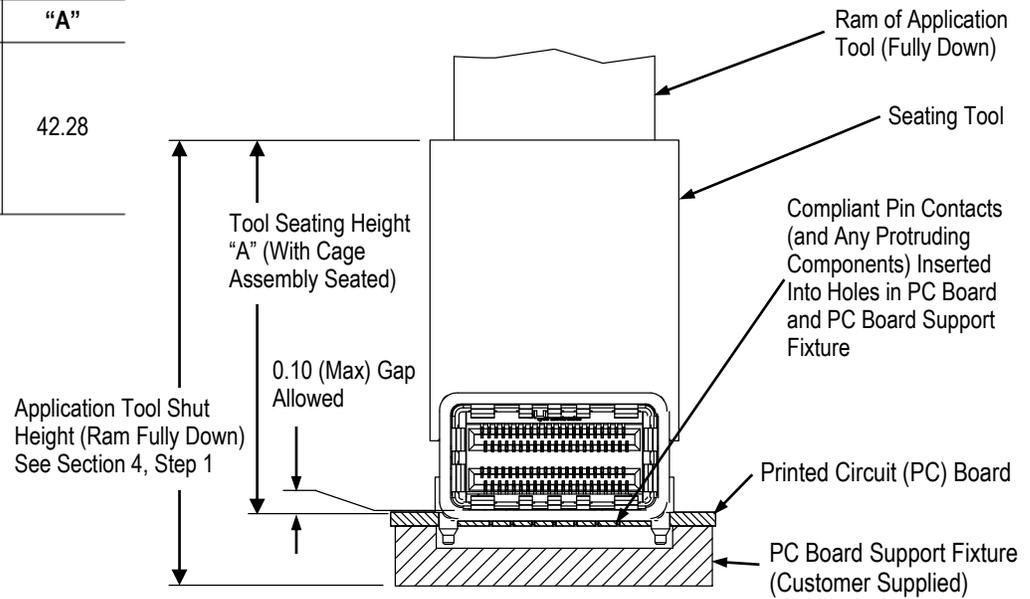

Figure 2
1. Set the tool seating height to the dimension shown in Figure 2 (application tool shut height will equal the tool seating height PLUS the combined thicknesses of the pc board and support fixture).
5. SEATING (See Figure 2)